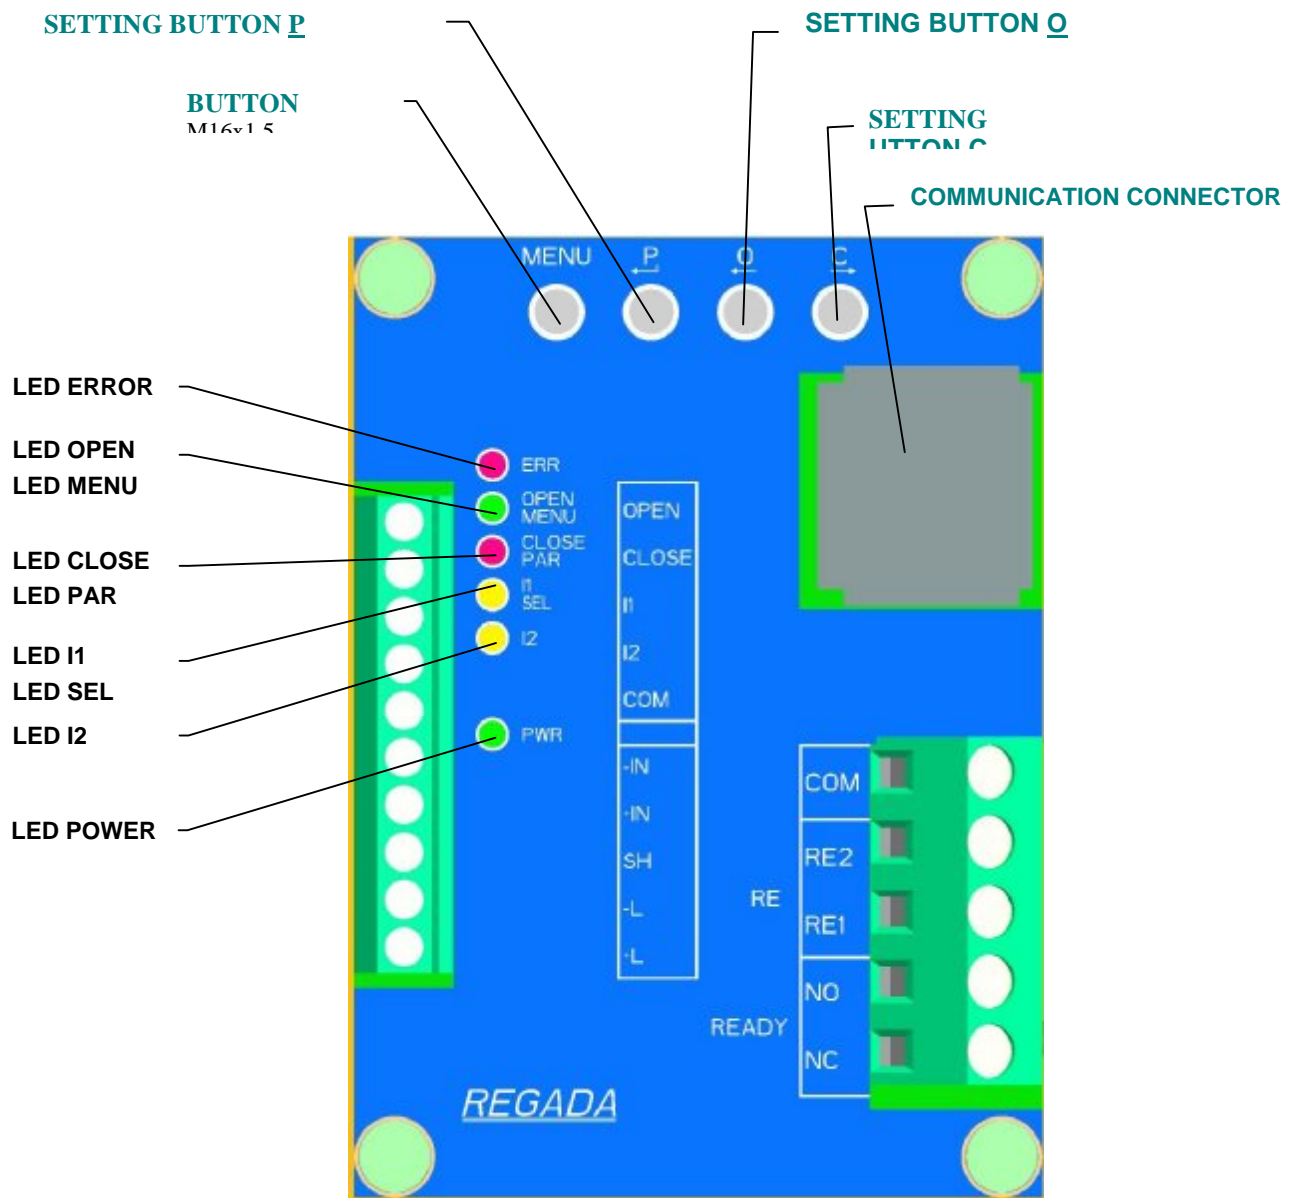

Fig. 6
After mechanical connection, electrical connection and checking of connection and function start setting and adjustment of the device. The adjustment can be performed at a mechanically and electrically connected EA. This part describes adjustment of EA to specified parameters in case that any unit of EA is reset. Laying of adjusters of the control board is shown on Fig.6.
- by operating the control unit buttons (see Fig. 6);
- six signal lamps according (LED diode) to **Fig. 6.**